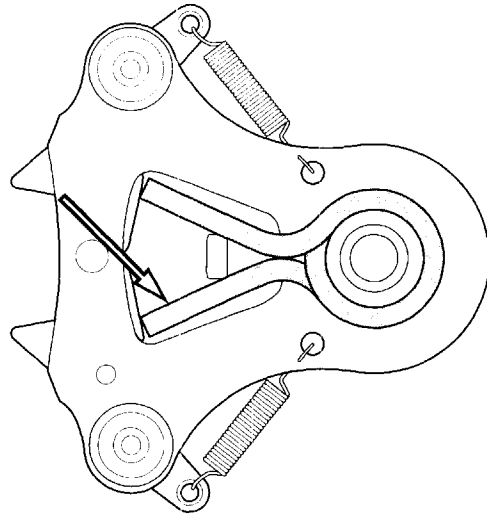

**Figure 5-103. Shifter Shaft Return Spring (Correctly Installed)**
1. See Figure 5-103. Correctly install shifter return spring onto the reverse side of the shifter shaft assembly before placing shaft in left crankcase half.